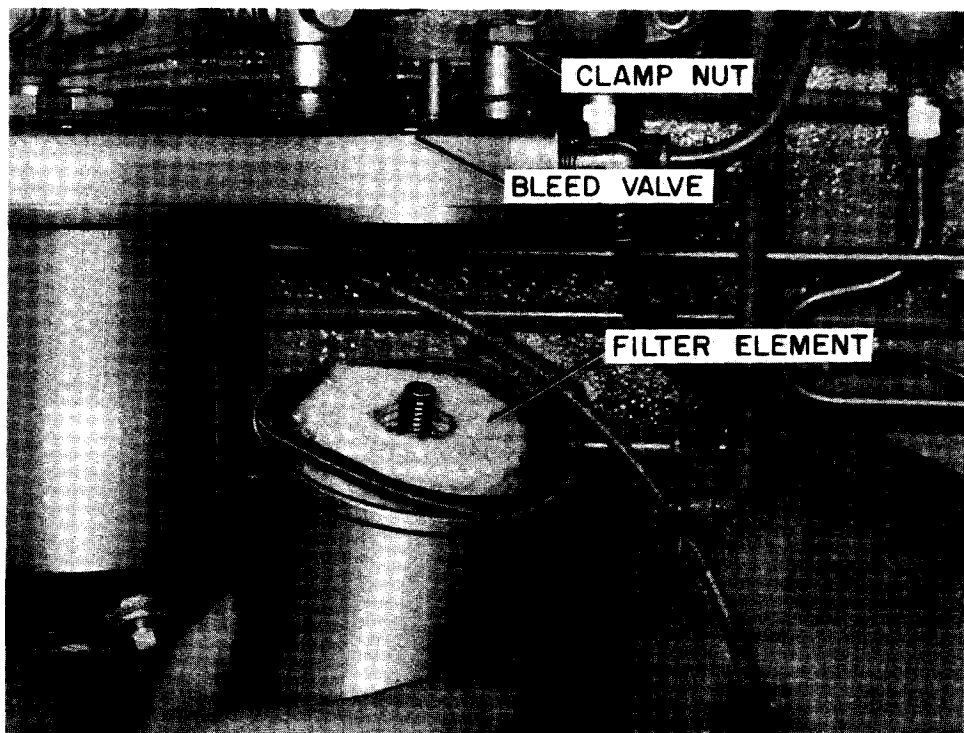

Figure 63. Removing Filter Element for Replacement
3. Loosen the filter clamp nut, Figure 63, until the entire filter body assembly can be lowered away from the top cover.
4. Lift the contaminated element out of the body and discard it, Figure 63.